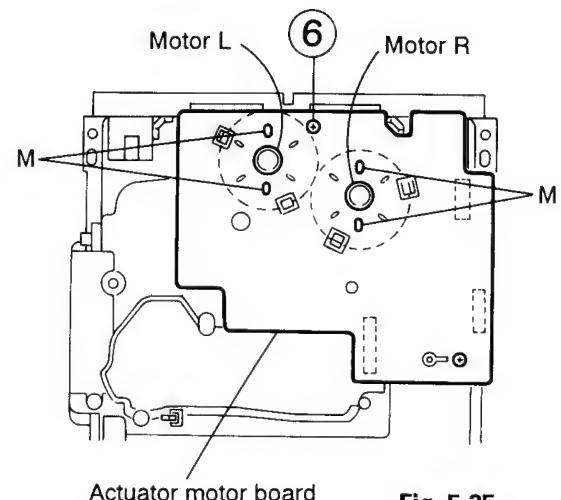

Fig. 5-35
(See Figs. 5-35 and 5-36)
- Absorb the four soldered positions (M) of the right and left motors with a soldering absorber (See Fig. 5-35).